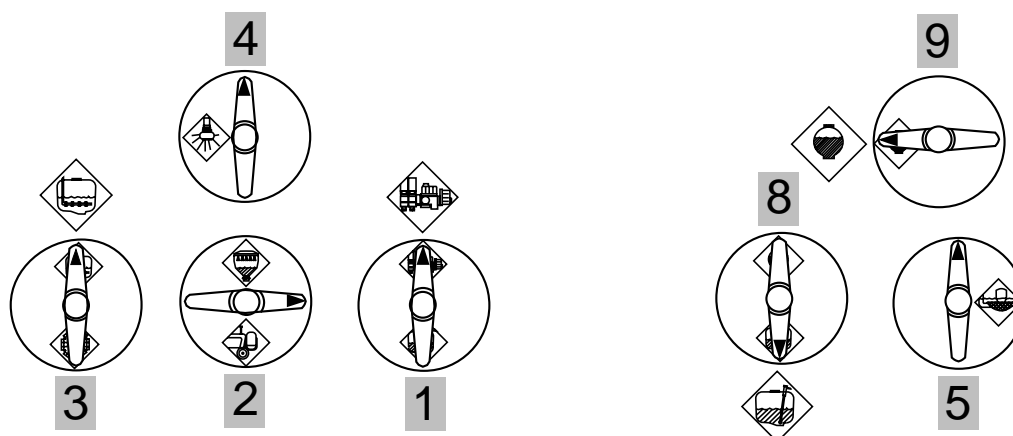

Fig 6-1
- Position the valves as above. (fig 6-1)